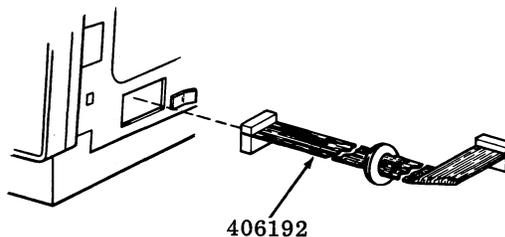

Fig. 27—Opcon Cable Assembly
7.01 Opcon Cable Assembly (Fig. 27)